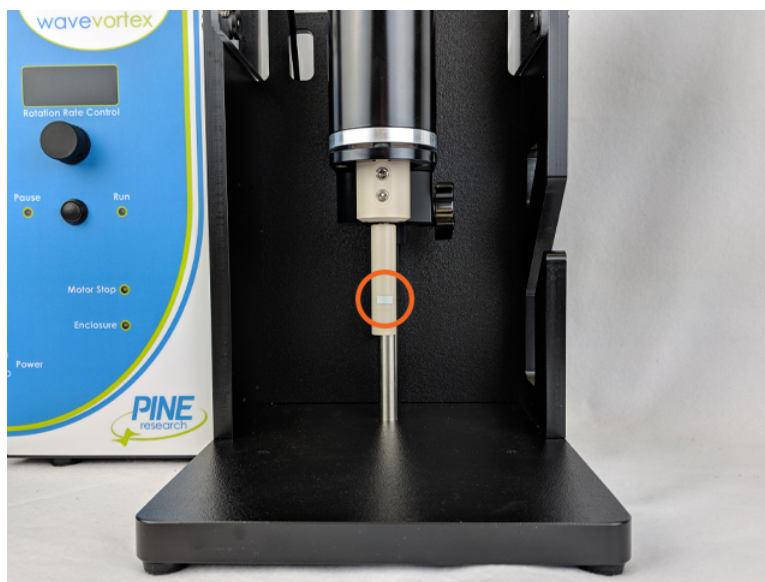

Figure 2-5. WaveVortex 10 Shaft with Reflective Tape Applied
5. Raise the clear enclosure and lower the motor unit to its lowest position on the support beam, tightening the height adjustment knob when finished. Attach a small (1/8" or 3.2 mm) strip of reflective tape to the rotating shaft (see Figure 2-5). The reflective tape is included in the MSR Rotation Rate Calibration Kit (AKMSRCAL). Lower the enclosure to the closed position, ensuring the "Enclosure" LED on the control unit is not illuminated.
1. Prepare the WaveVortex 10 by connecting it to its power supply, adjusting the power switch to the on position, applying a piece of reflective tape to the shaft (see Figure 2-5), and lowering the enclosure.